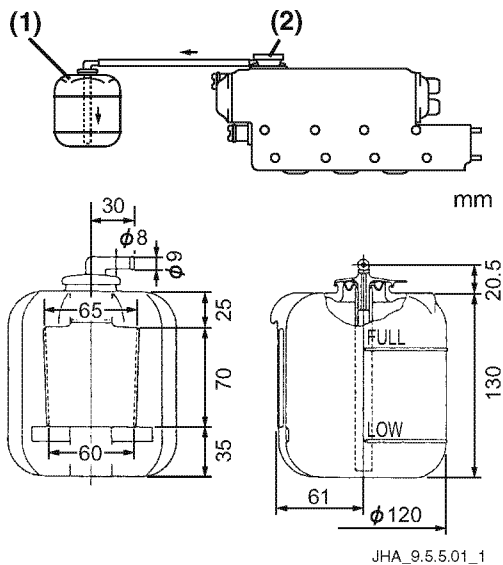

Figure 7-12
The pressure valve opens to discharge steam when the steam pressure in the coolant tank exceeds 90 kPa (13 psi). The coolant recovery tank (**Figure 7-12, (1)**) captures coolant discharged during this process.